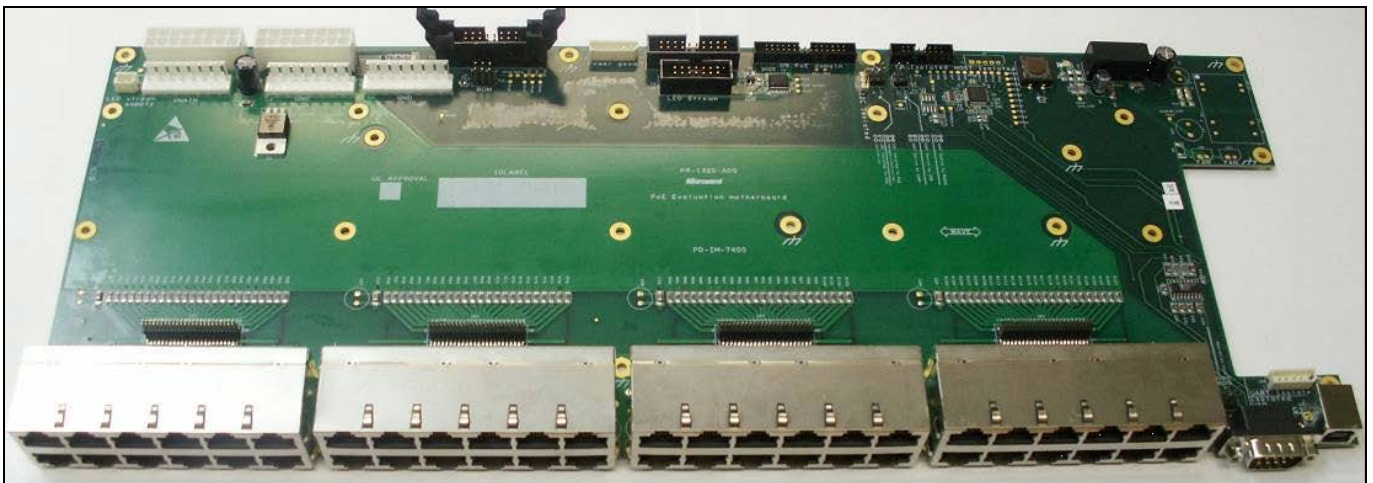

Figure 1: Mother Board - General View
Microsemi's PD-IM-7448 evaluation board (see Figure 1 and 2) provides the designer with the needed environment to evaluate the performance and the implementation of PoE applications based on the PD69012 - PoE Manager and the PD69000 - PoE Controller. This board can be configured to support Enhanced and Auto PoE operational modes. The PD-IM-7448 provides the customer with the ability to apply any PoE application while using different daughter boards (DB) connected to the top of the mother board (MB).